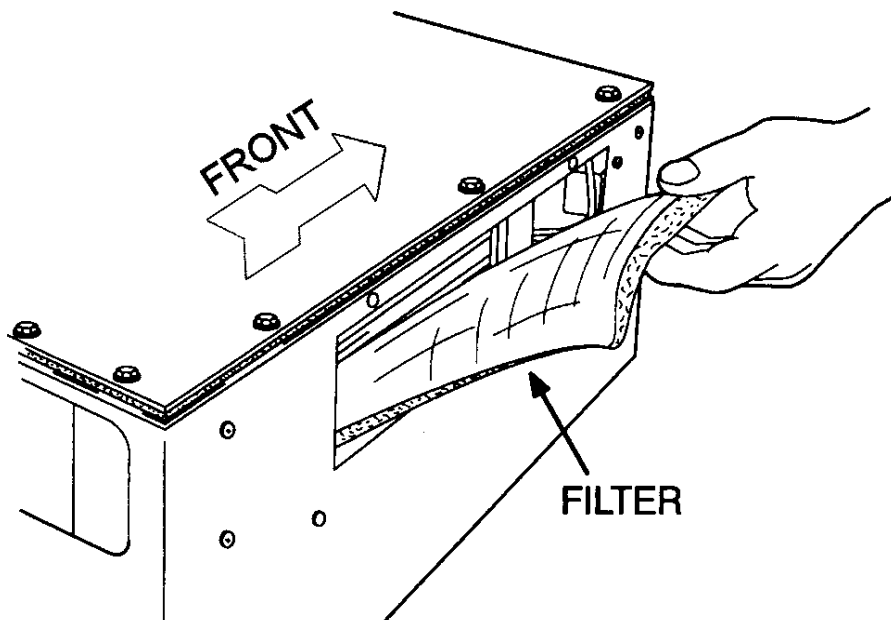

Figure 5 Blend-Air Unit Filter
2. Reach inside Blend-Air unit and pull old filter from unit. Note orientation of filter (Figure 5).
1. Install new filter element in unit (mesh side toward evaporator). Slide it into the slots next to the evaporator (Figure 5).